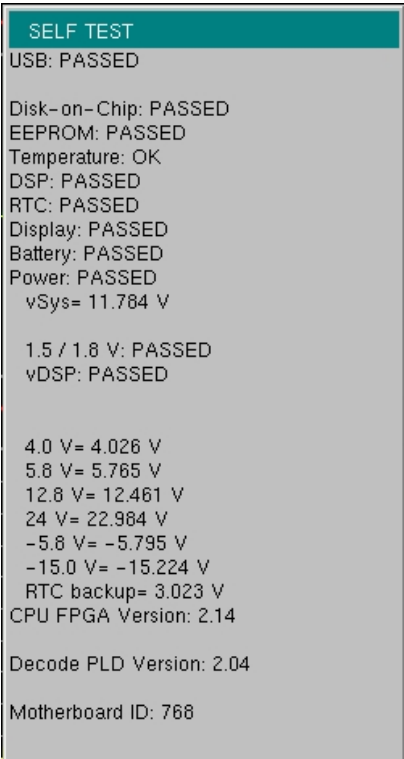

Figure B-1. Self Test Results Window
To run self test, press **Shift** and **System** (8) and then **Self Test**. Refer to the results window in Figure B-1, which summarizes the status of several key functions in the instrument that are common to all applications (note that your instrument display may differ from this image). If any subtest shows FAILED, then check that the battery level is adequate for operation, or check that the temperature is within acceptable limits. Reset to factory defaults with either “Factory Defaults Reset:” \(Esc+On\), or “Master Reset:” \(System+On\).